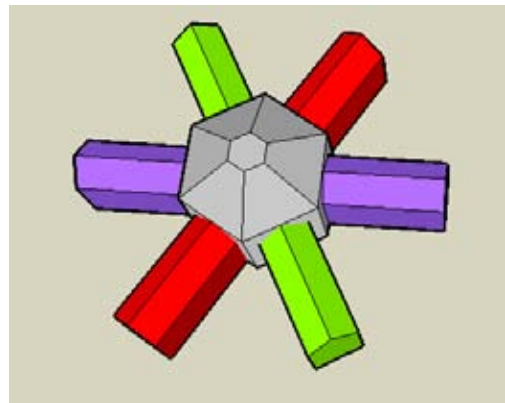

Figure 3-20
5. Paint each group. You do not have to edit a group in order to paint it; just pick the color and click the group (Figure 3-20).